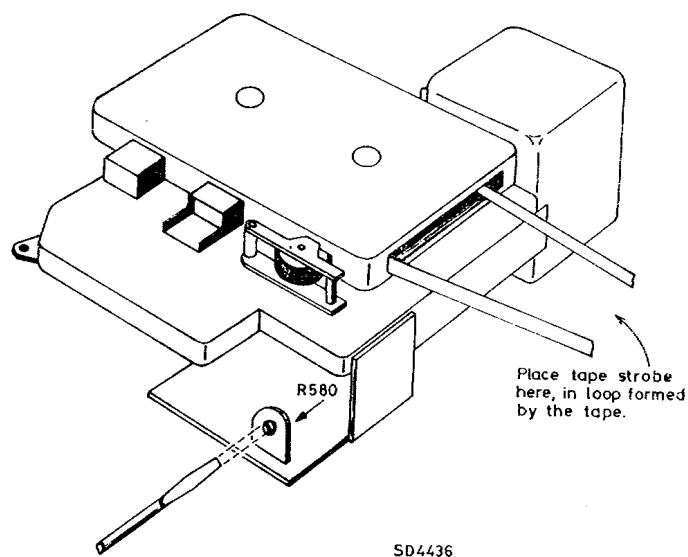

Fig. 9
**(ii) Using stroboscope (see Fig. 9)**